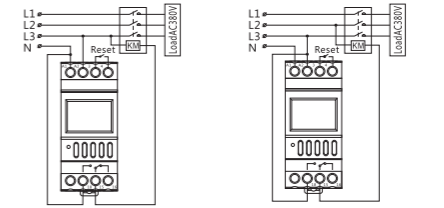

Figure 4 Wiring diagram of 3-phase control (contactor coil AC220V) Figure 5 Wiring diagram of 3-phase control (contactor coil AC380V)
a) Control contactor coil voltage: AC220V 50Hz/60Hz, see Figure 4 for wiring method;